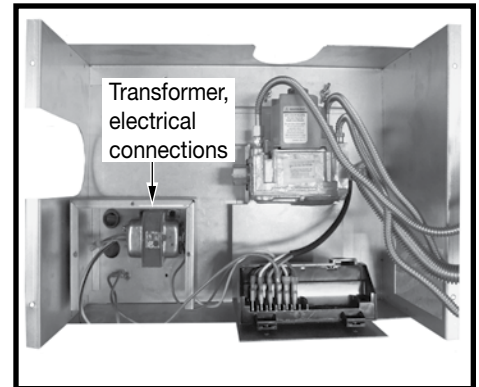

Figure 21: TC42 outdoor control with transformer.
5. Run one 110 V. AC switched electrical supply to the control box and connect to the transformer installed inside the control box (Figure 21). The fireplace operates on 24V AC supplied by a transformer rated at 110 volts, 60Hz. See wiring diagram on page 36 for correct connections to the transformer.